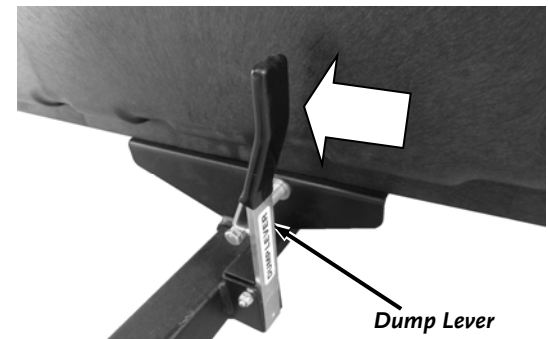
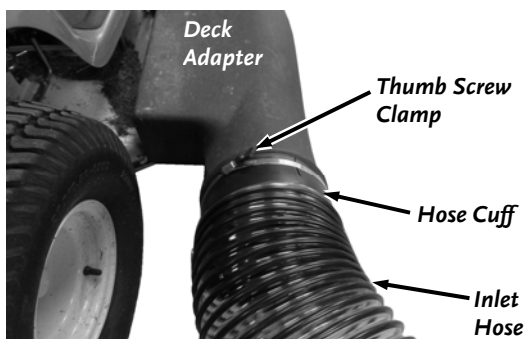
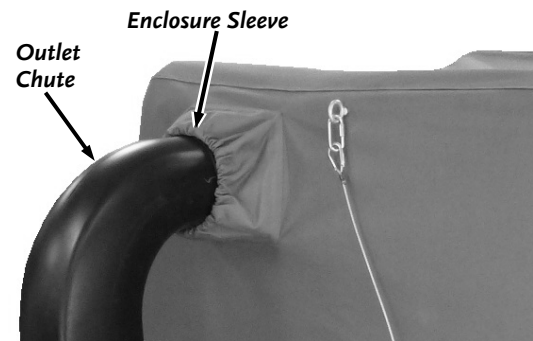

Figure 63
Figure 65
Figure 64
3. Make sure the Collector Cart is on the Frame with the Dump Lever locked over the Latch Pin (**Figure 63**), the Enclosure Sleeve is over the Outlet Chute (**Figure 64**), and the Inlet Hose Cuff is securely attached to the Deck Adapter on your Tractor (**Figure 65**).